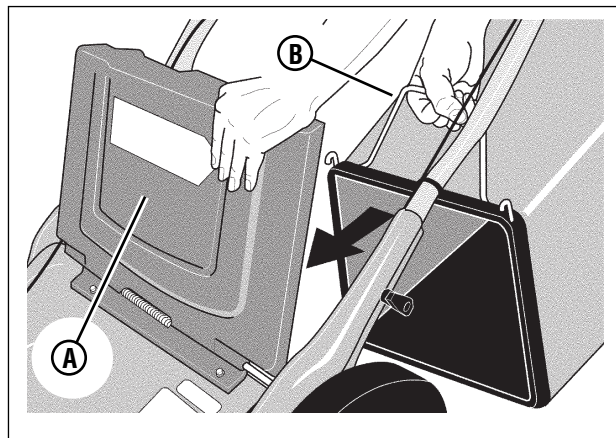

Figure 11: Installing the grass bag
1. Raise the rear discharge door (A, Figure 11).